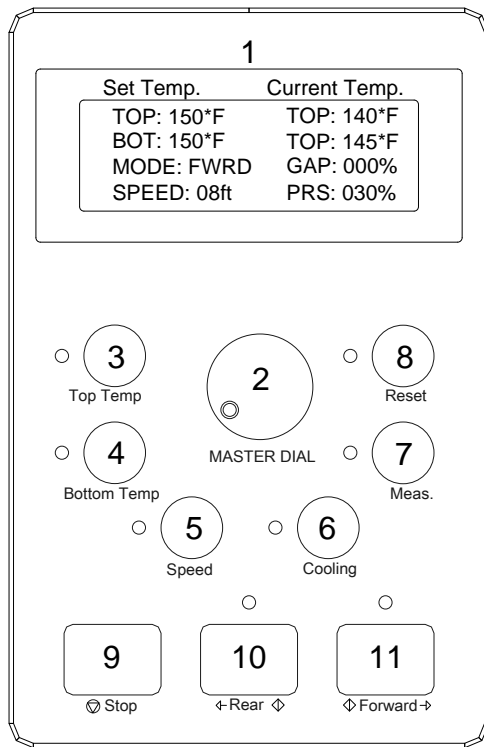

FIGURE 1
B. Control Panel (FIGURE 1)**1. Main display Read out:**
- Illuminates when the laminator is plugged in and **POWER ON/OFF** is in the on, (I), position. Displays settings for the top heater, bottom heater, speed, job mode, and ready/wait.